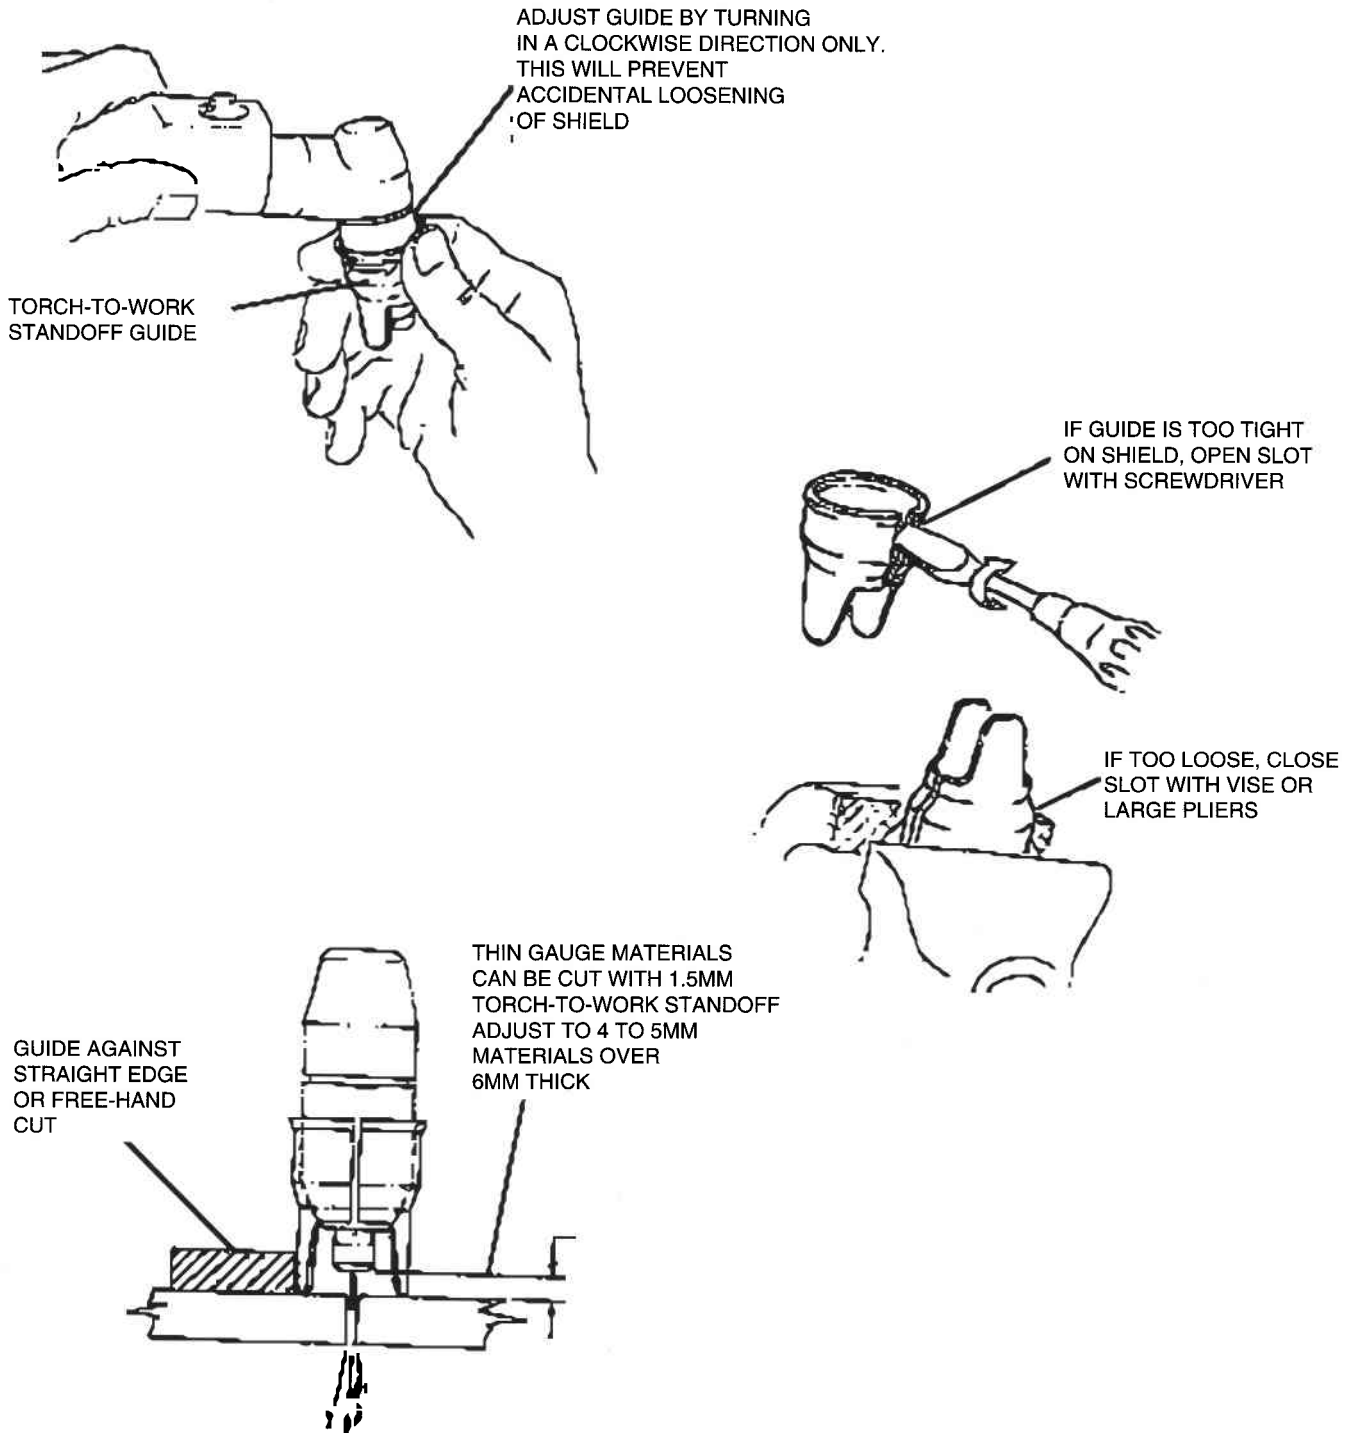

Figure 9 PT-81 Torch-to-Work Standoff Guide
4. After starting the cut, the torch may be returned to the upright position. When not using the standoff guide, the nozzle should be held approximately 3mm from the work. When using the standoff guide, refer to Figure 9.
5. When excessive contamination is found in the air, the flow switch (FS) should be disassembled and cleaned, see Fig 9.